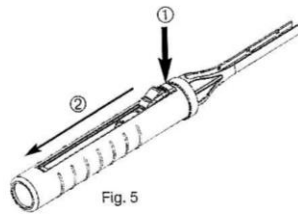

Fig. 7
1. Remove the handpiece (with attached needle) from the cap on side of the drive unit. Protract the needle by depressing the back portion of the control tab, gently sliding it forward all the way (Fig. 7), and depressing the forward portion of control tab to lock into the protracted position (Fig. 8). The control tab becomes “self-locked” into the protracted position. Perform the injection.